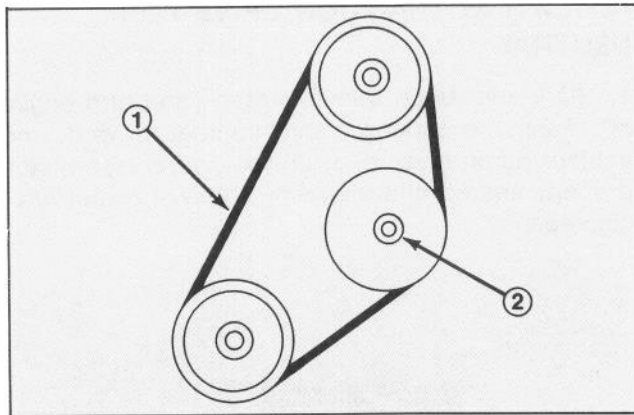

Figure 52
3. Belt should deflect 1/4 in. (6 mm) midway between the pulleys with 5 lb force (22 n) (Fig. 52). If deflection is incorrect, proceed to step 4. If correct, proceed to step 5.
4. Loosen locknut securing idler pulley (Fig. 52). Push idler pulley against belt until proper deflection is achieved and tighten idler pulley locknut (Fig. 52).
- Loosen locknut securing idler pulley, slide pulley away from belt, and remove belt from top and bottom pulleys (Fig. 52).
- Install new belt and adjust for proper tension. Push idler pulley against belt until belt deflects 1/4 inch (6 mm) with 5 lb force (22 N) midway between top and bottom pulley locknut to secure adjustments (Fig. 52).